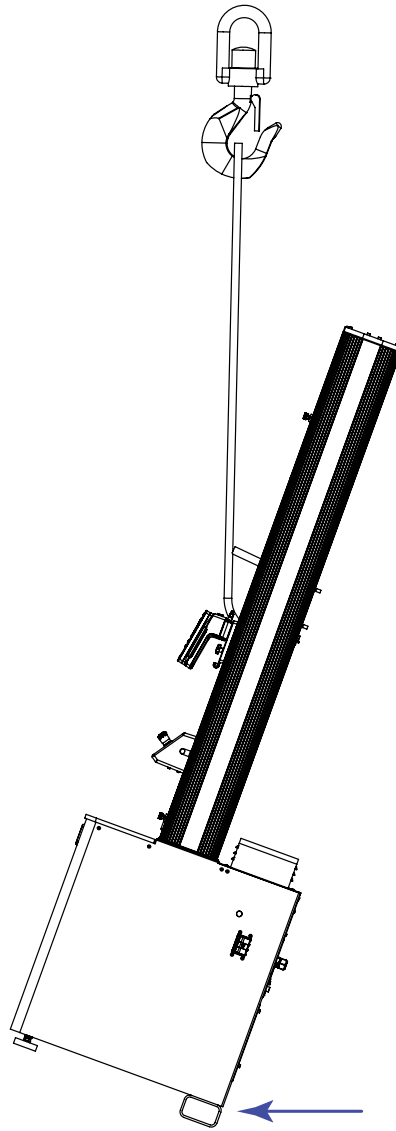

Figure 25. Righting the load frame
5. Slowly lift the frame into a vertical position (see Figure 25 on page 83).
During the lift, ensure that the only parts in contact with the shipping skid or the floor are the tubular brackets at the rear of the frame base (indicated by the arrow in Figure 25 on page 83).